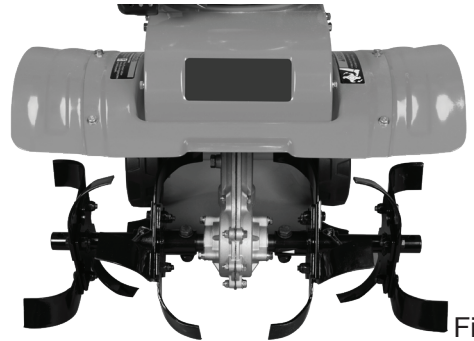

Figure 3
Install the tines (See Figure 3)
3. Insert the Lynch pins to secure the outside tines. Install Lynch pins so the direction of the pin is from front-to-back and the wire loop pivots over the top of the axle. Secure by expanding the wire loop so it extends over and captures the end of the pin. (Fig 3)